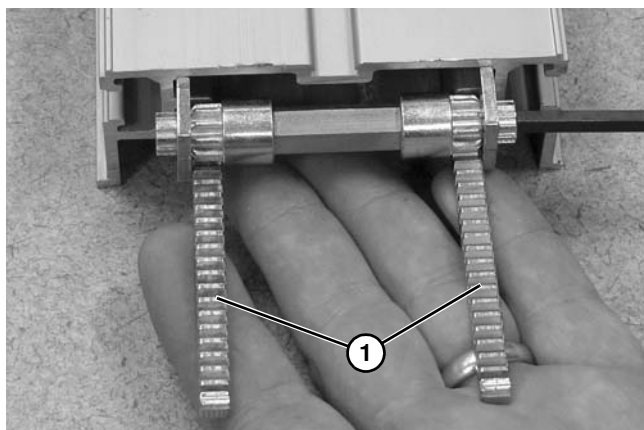

Figure 95
9. Insert both gear racks (**Figure 95, item 1**) into conveyor frame.